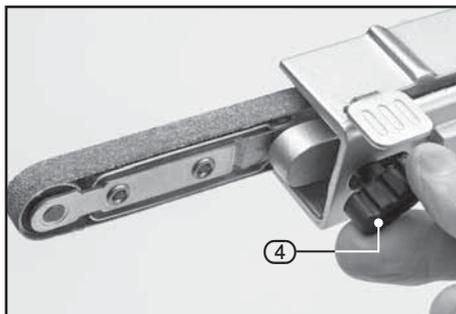

FIG.8
- Return the belt release lever (6) to its original position.
8.3 SANDING BELT TRACKING AND ADJUSTMENT – FIG.8